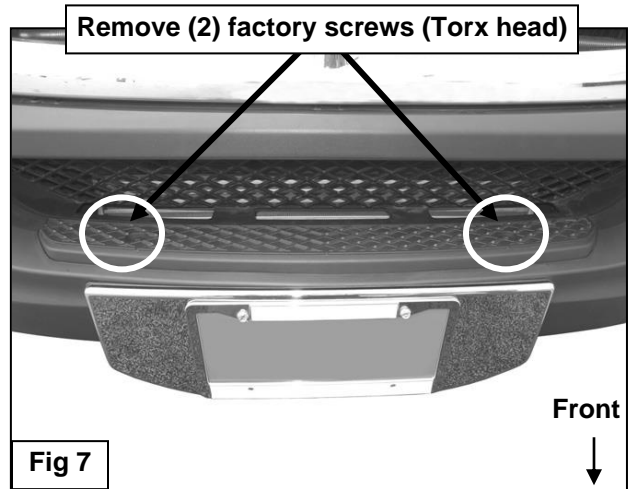

Fig 7
5. Next, remove the (2) Torx bolts in the bottom of the opening in the front bumper step area, **(Figure 7)**. Place a Tube Spacer into the driver side recess in the bumper cover, **(Figures 8 & 9)**. Position the driver side Support Bracket over the Tube Spacer. Attach the Support Bracket to the Spacer and the bumper with the included 8mm x 40mm Hex Bolt, 8mm Lock Washer and 8mm Flat Washer to bolt the Bracket to the front bumper, **(Figure 10)**. Do not tighten hardware at this time.